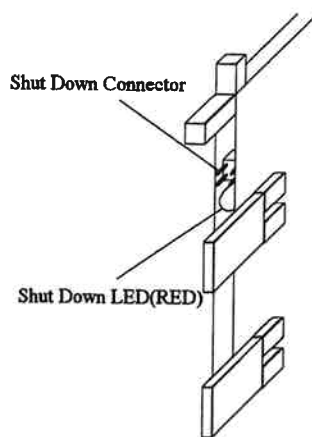

Fig. 3.4.8.4.2-1 Shut Down LED
- a. Confirm that Shut Down LED lights.(Fig. 3.4.8.4.2-1) If the LED does not light, see Connection of Shut Down Jumper(INST03-2600).